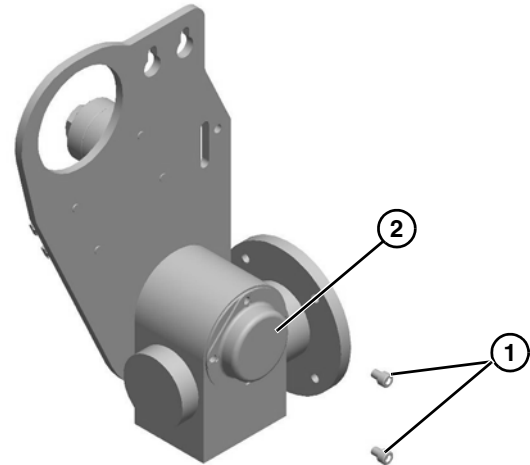

Figure 34
- Attach output shaft cover (**Figure 34, item 2**) with two screws (**Figure 34, item 1**).